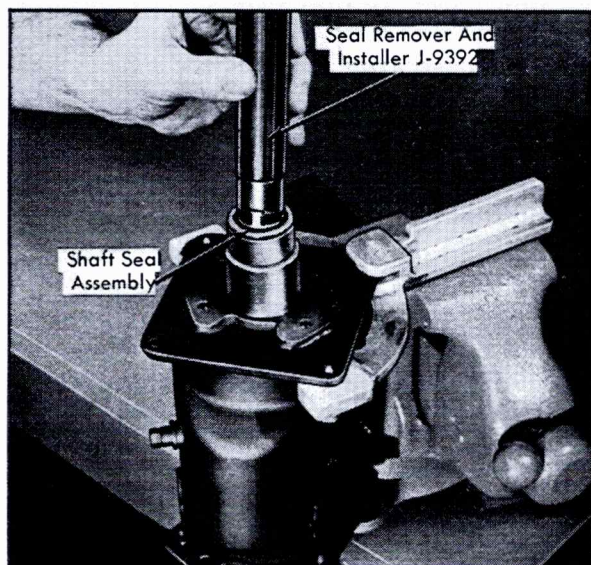

Fig. 1-51 Removing Shaft Seal Assembly
6. Remove shaft seal assembly using Seal Remover and Installer, J-9392, Fig. 1-51. Press down on tool to overcome seal spring pressure and twist tool clockwise to engage tabs on seal